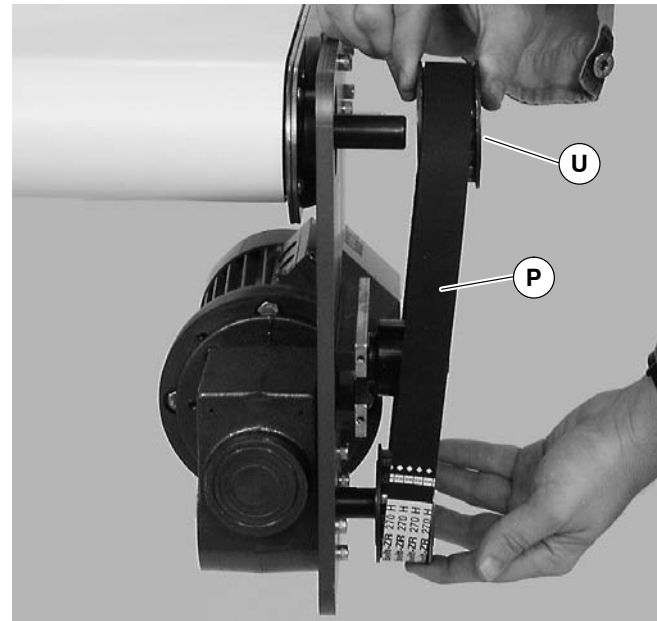

Figure 13
3. Remove timing belt (P of Figure 13).
NOTE: If timing belt does not slide over pulley flange, loosen driven pulley taper-lock screws (U of Figure 13) and remove pulley with belt (P). For re-installation, see steps 6 and 7 on beginning on page 6.